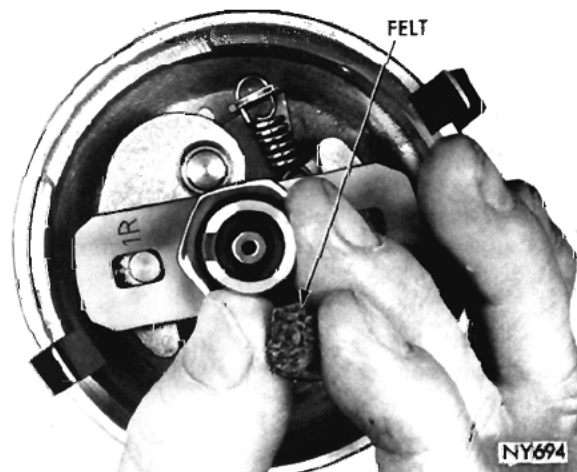
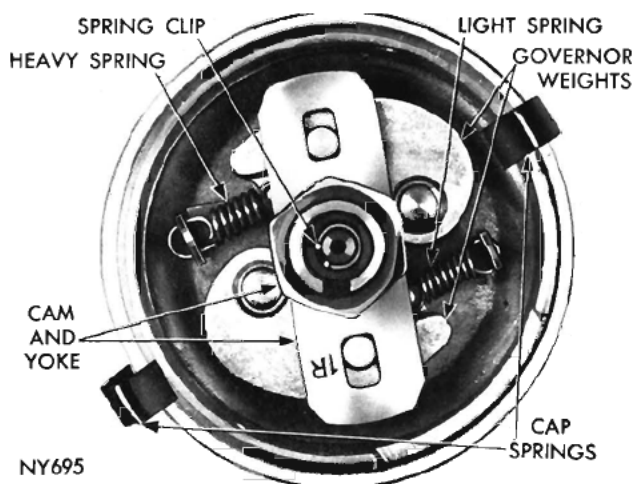

Fig. 3—Removing or Installing Distributor Cam Felt (Typical)
Fig. 4—Distributor Cam Installed (Typical)
(5) Remove the oil felt wick from the distributor cam (Fig. 3). Remove the wire clip from the oil well in the cam (Fig. 4), then remove the cam and yoke assembly, and the spacer.
- (6) Install the cam retaining spring clip (Fig. 4).
- (7) Lubricate and install the upper thrust washer